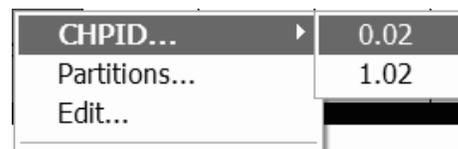

Figure 14. Context menu of a spanned CHPID in a horizontal processor view
1. In the vertical processor view, you can see only one (physical) instance of a spanned CHPID. Nevertheless, in such a case, you can get information about all logical instances from such a CHPID’s context menu (see Figure 14).